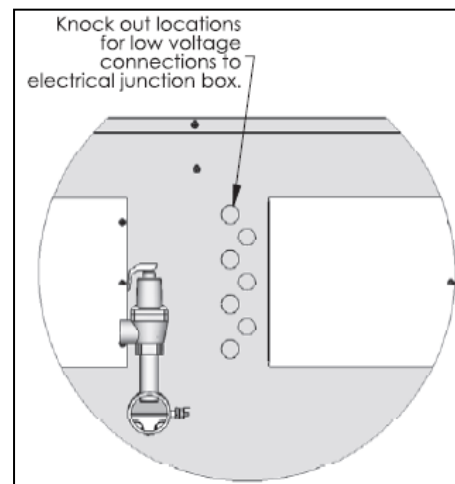
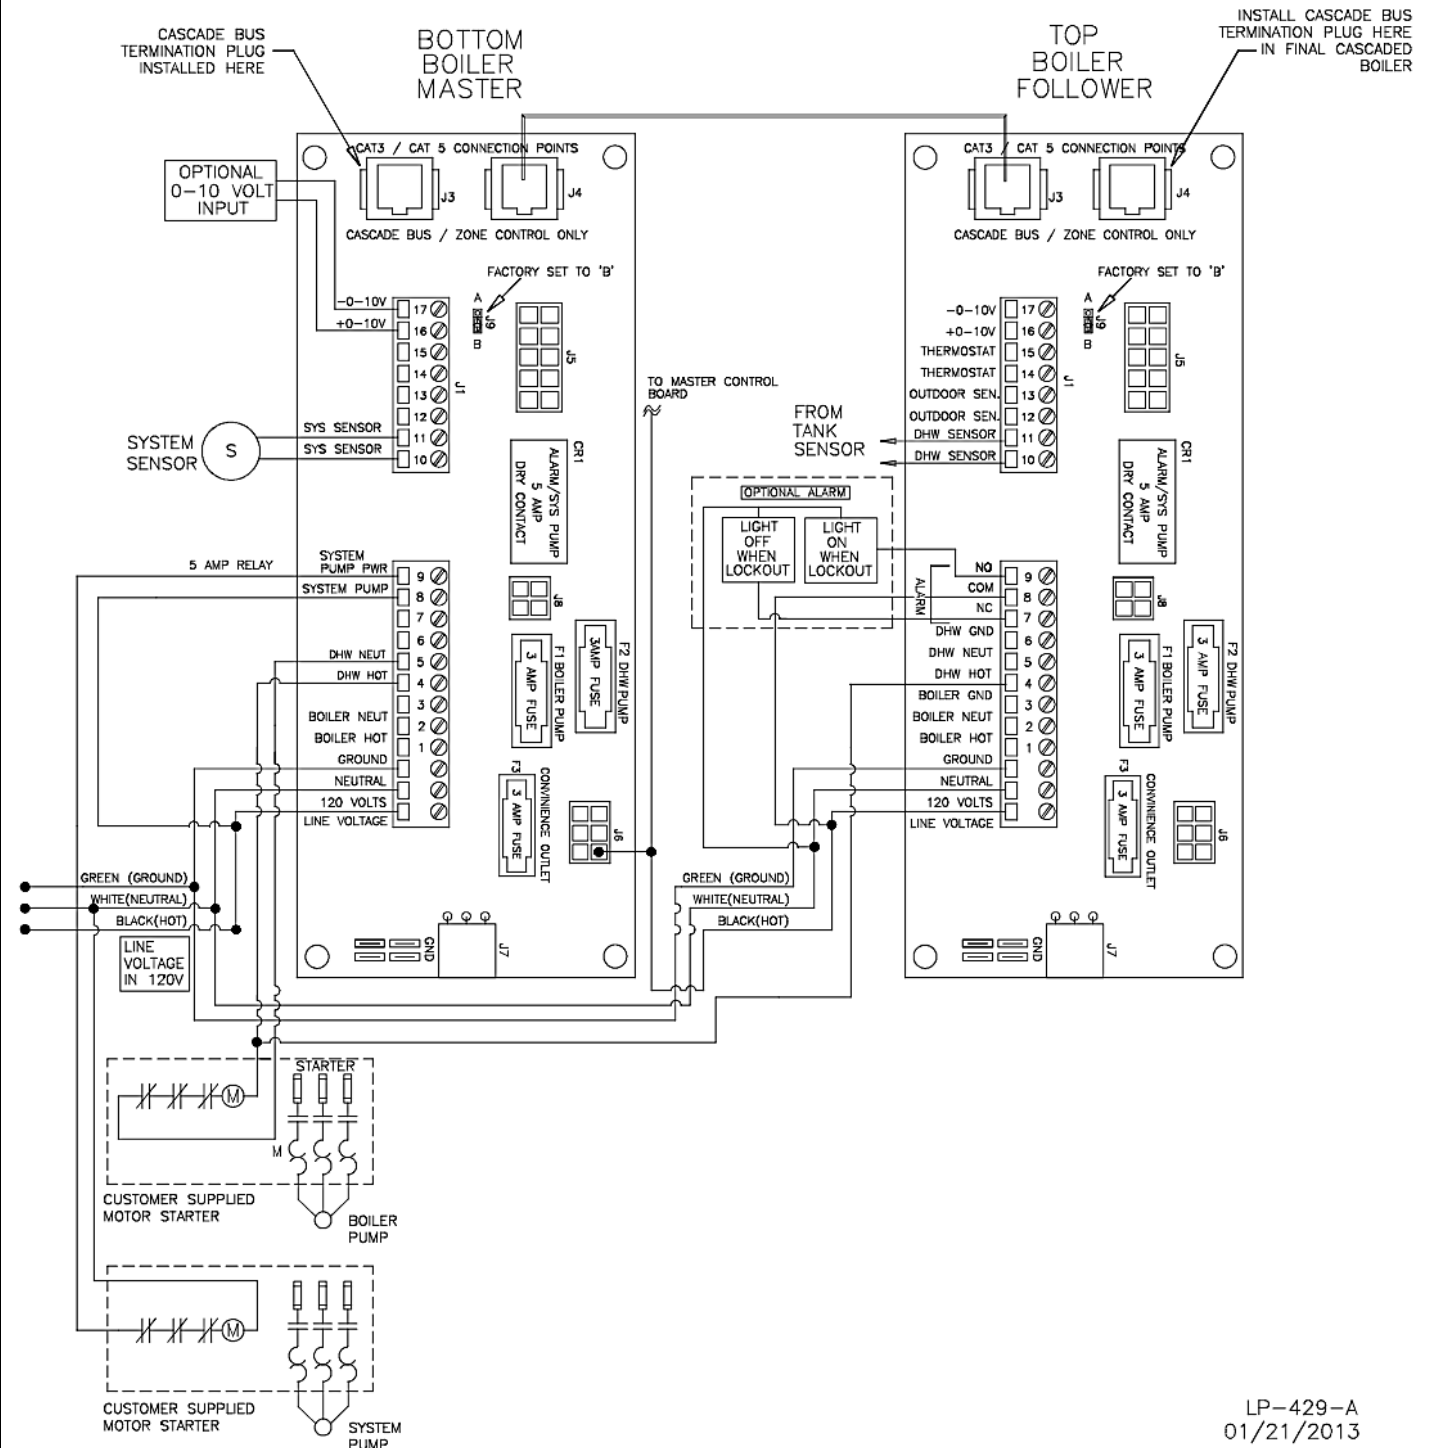

Figure 20
Figure 23 – Mod Con VWH Cascade Master and Follower Wiring
2. Loosen the pressure tap with a small screwdriver. Refer to Figs. 20 and 21 for locations.
The Mod Con VWH application requires a circulator pump for each double stacked unit. Circulator pumps can be wired directly to the controller as shown in Figure 23 or wired directly to line voltage for continuous operation. Only wire the circulator pump to the controller if a tank sensor or mechanical control can be mounted to the storage tank, otherwise circulator pumps must be wired to run continuously.
The circulator pump wired to the boiler control will have a default program of a 5 minute post purge to provide stabilization and post cleaning of the heat exchanger. The boiler control is capable of supplying 120 volts at up to 3 amps to run the circulator pump. If using a larger circulator pump requiring more than 3 amps or higher voltage, an external motor starter, sized appropriately for the pump motor, must be used. This starter should have a 120 VAC coil. If a starter with a 120 VAC coil is used, it can be wired directly to the appropriate pump terminals as shown in Figure 23.
Connect the incoming power wiring to the line voltage terminal strip in the electrical junction box at terminals LINE 120V, Neutral, and Ground (shown in Figure 23). A line voltage fused disconnect switch may be required to be externally mounted and connected according to local wiring codes.
If the pump used for the boiler operates at 120 volts and less than 3 amps is required, it may be connected directly to the terminals marked BOILER HOT, BOILER NEUT, and BOILER GRD. If the pump operates at a voltage other than 120 volts and/or requires more than 3 amps, an external motor starter must be used to operate the pump. If the starter is equipped with a 120 volt coil, the coil connections may be connected directly to the terminals marked BOILER HOT and BOILER NEUT. Refer to Figure 23 for a representative drawing of this configuration. If a motor starter is used, it should be selected, installed, and wired in compliance with all local electrical codes and requirements. In the absence of such codes or requirements, the National Electrical Code (NFPA 70) should be followed.
The Mod Con control includes a dry contact alarm output. This is an SPDT circuit, rated at 5 amps at 120 volts. This contact can be used to activate an alarm light or bell, or notify a building management system if the boiler goes into a lockout condition. The circuit between the ALARM COM and NC terminals is closed during normal operation and the circuit between ALARM COM and NO is open during normal operation. The connections depicted in Figure 23 show two 120 volt lights connected to the alarm terminals. One light will be on when the boiler is in normal mode and the other light will turn on when the boiler is in lockout mode. This connection is located on the top boiler.
All low voltage cables should enter the electrical junction box through the provided knock out holes shown in Figure 20. Connect all low voltage field devices in the low voltage terminal strip located in the electrical junction box shown in Figure 23.
Connect the tank sensor or mechanical controls to the TANK SENSOR terminals of the low voltage terminal strip shown in Figure 23. The control on the top boiler will automatically determine which type of sensor is connected and will operate accordingly. Caution should be used to ensure that neither of these terminals becomes connected to ground.
The pipe sensor can be used to control the temperature of the storage tank when a tank sensor or mechanical control cannot be mounted. The pipe sensor must be wired into the terminals of the low voltage terminal strip of the top boiler as shown in Figure 23. It is important to note that when a system/pipe sensor is used, the circulating pump must be wired to operate continuously. Failure to do so will short cycle the boiler. As a result, the storage tank will not heat.
The system/pipe sensor can also be used when multiple MODCON 1000 or 1700 boilers are cascaded. This will control the temperature and modulate the firing rate of the connected boilers. The system/pipe sensor would then be wired into the master boiler terminals on the low voltage strip as shown in Figure 23 in place of the factory installed system sensor.
NOTE: A termination plug is included in the CAT 3 / CAT 5 Bus Connection Point, labeled J3 in Figure 23. DO NOT REMOVE THIS PLUG! Doing so will affect boiler operation and void warranty.
3. If it is desired to monitor the boiler system to detect a lockout condition, a dry contact alarm relay is provided. Please see Figure 23 for wiring suggestions for this relay. Note that the alarm output of the boiler addressed as 1 will be active for lockout alarms on boiler 1 as well as on the master boiler.